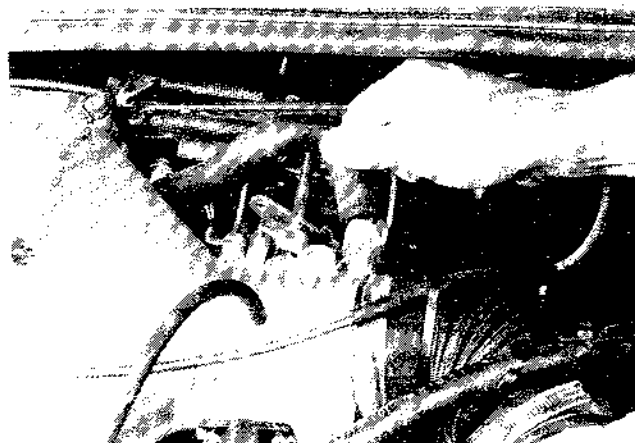

Fig.13
- 4 Disconnect the air supply to the extra air valve gallery from its connection near the throttle butterfly and seal the port (as Fig.13).